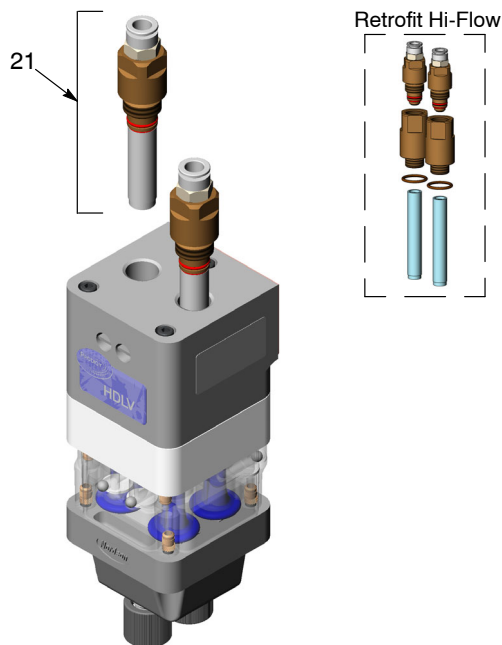

Figure 8 Installing Fluidizing Tube Assembly
15. See Figure 8. Install fluidizing tube assemblies (21) into pump and tighten securely.